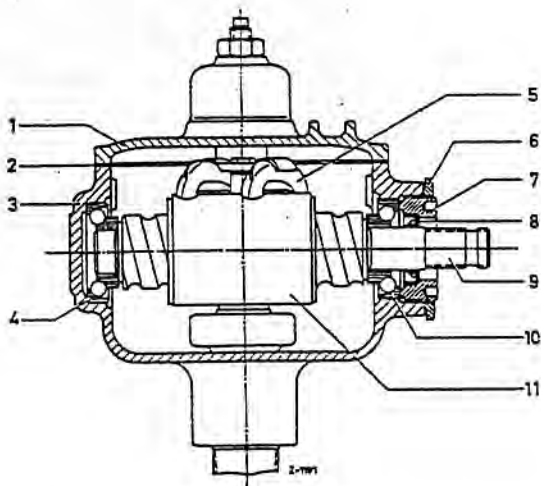

Fig. 46-4/1
1. Attach the steering to the assembly plate (25) which has been clamped in a vise (Fig. 46-4/2).
3. Check the steering worm for the specified end play (practically no play) (see Table in Job No. 46-0). The steering worm must turn easily, but there must not be any excessive play. If the steering worm does not move easily when the end play is adjusted correctly, disassemble the steering and check the bearing parts of the steering worm (Fig. 46-4/1).
Pin Wrench 000 589 00 05 to tighten the adjusting ring (7) until the specified end play of the steering worm is obtained (Figs. 46-4/1 and 46-4/2). Then tighten the hexagon nut, at the same time holding the adjusting ring steady in order to ensure that the adjustment is not changed. Again check the end play as described in para 3.